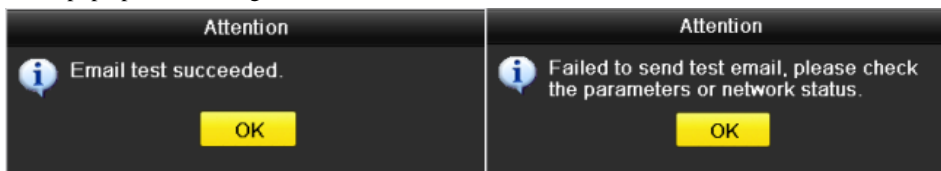

Figure 9. 24 Email Testing Attention
7. You can click **Test** button to test whether your Email settings work. The corresponding Attention message box will pop up. Refer to Figure 9. 24.